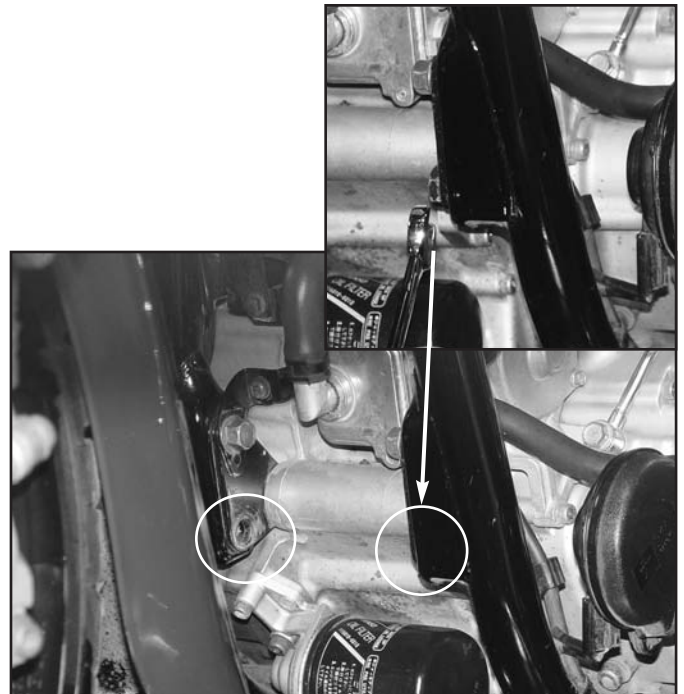

Figure 1
3. Remove the two lower left and right engine mount bolts. (14mm Wrench) These bolts will not be re-used. **Figure 1.**